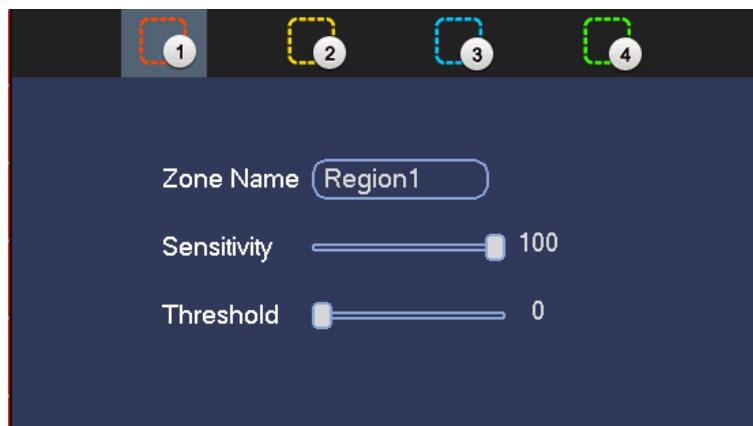

Figure 4-108
- Region: Click select button, the interface is shown as in Figure 4-108. Here you can set motion detection zone. There are four zones for you to set. Please select a zone first and then left drag the mouse to select a zone. The corresponding color zone displays different detection zone. You can click Fn button to switch between the arm mode and disarm mode. In arm mode, you can click the direction buttons to move the green rectangle to set the motion detection zone. After you completed the setup, please click ENTER button to exit current setup. Do remember click save button to save current setup. If you click ESC button to exit the region setup interface system will not save your zone setup.
In Figure 4-108, you can left click mouse and then drag it to set a region for motion detection. Click Fn to switch between arm/withdraw motion detection. After setting, click enter button to exit.